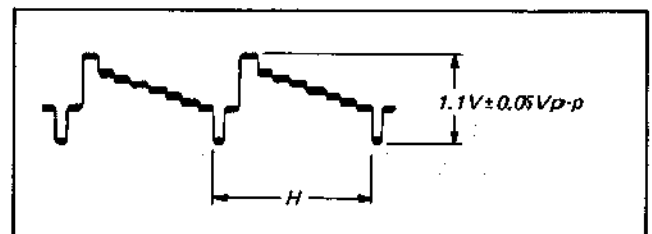

Fig. 4-4-13. Peak AGC adjustment
- (1) Supply the VTR with the colour bar signal and set up the E-E mode.
- (2) Connect the oscilloscope to pin 24 of IC1.
- (3) Adjust RV7 for maximum output level of the video signal and then adjust RV2 so that the output level of the video signal becomes 1.1 V \pm 0.05 Vp-p. (See Fig. 4-4-13.)